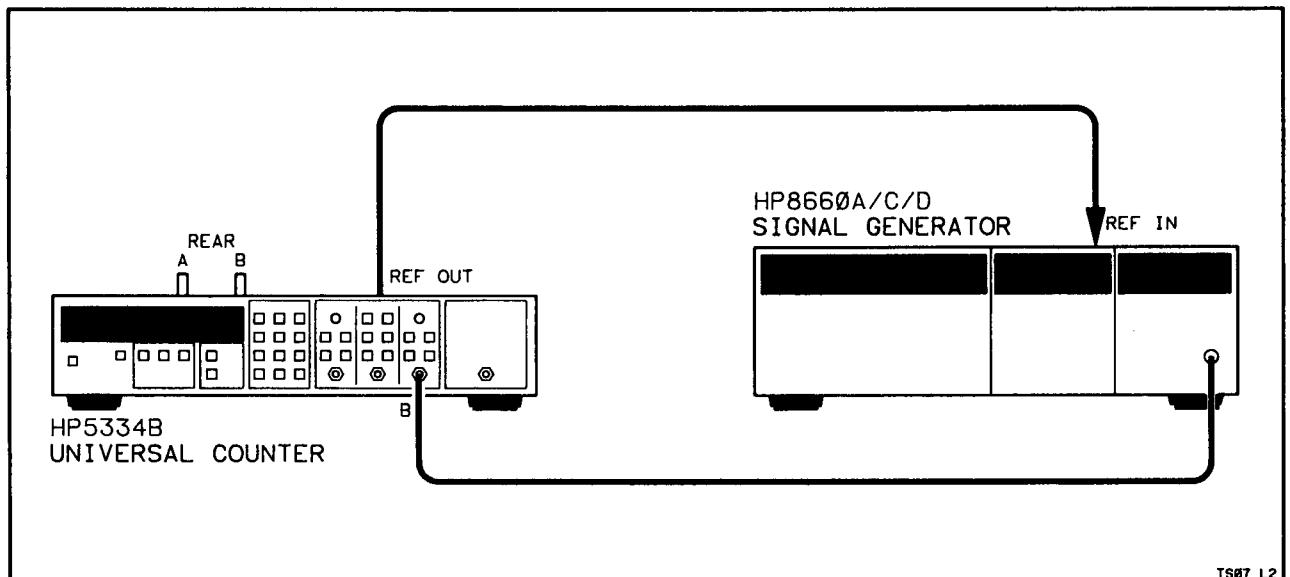

Figure 4-7. Channel B Frequency and Sensitivity Setup
- 4. Connect the signal generator to the HP 5334B front panel Input B as shown in *Figure 4-7*.